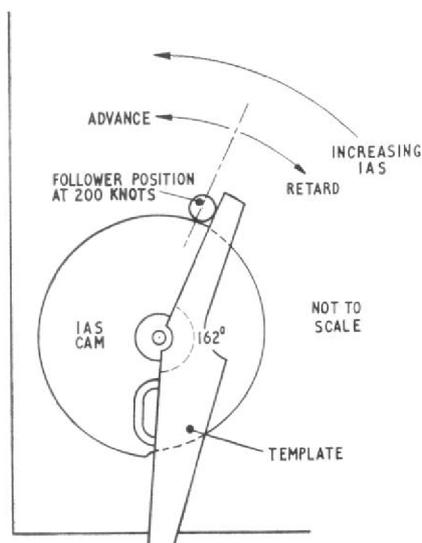

Fig. 3. Adjustment of IAS cam CU8
(2) Switch S4 to IAS and set the P-S pressure to 66.43 mb (200kt). Check that the G1 reading is 02002 ± 35 divisions.
(3) If the G1 reading is not within the permitted tolerance, check that the CU8 cam follower is in the required position (Appendix 2, para. 7), as shown in fig. 3, using a suitable template constructed of a thin rigid material.